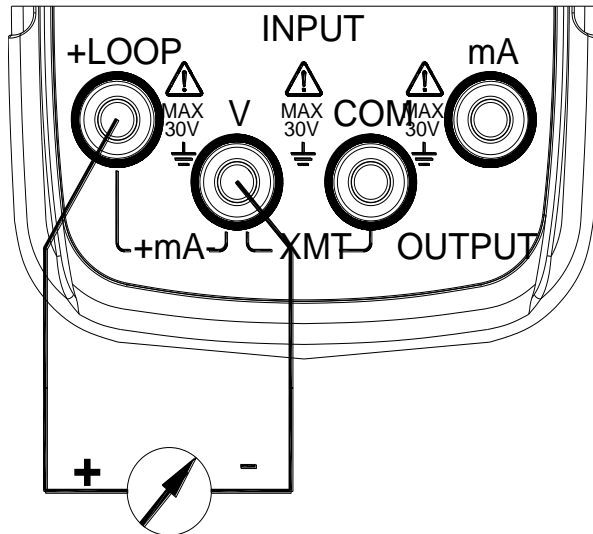
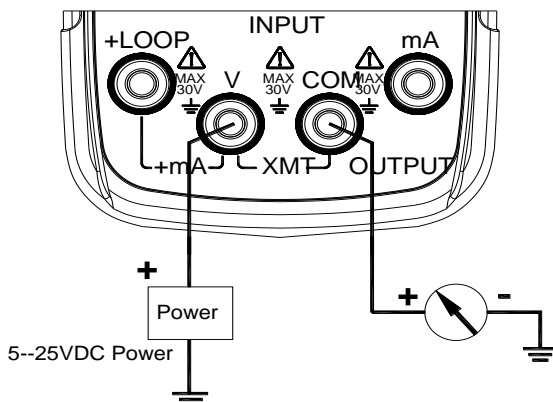

Figure 5.1 Current output
Figure 5.2 XMT output connection
- Insert one end of the test lead to the + mA – output jack (OUTPUT) of the device and connect the other end with the input of the device as shown in Figure 5.1.
- Press the output/input toggle button (3) so that the **OUTPUT** symbol appears on the display. The device is now in an output state.
- Press the mA%/V unit select button (4) so the device displays mA or mA%; where 0% is 4mA and 100% is 20mA.
- Connect the test leads to the device as in Figure 5.1.
- Press the mA%/V unit select button (4) so the device displays mA or mA%.
- Insert one end of the test lead to the XMT output jack of the device and connect the other end with the input of the device as shown in Figure 5.2.